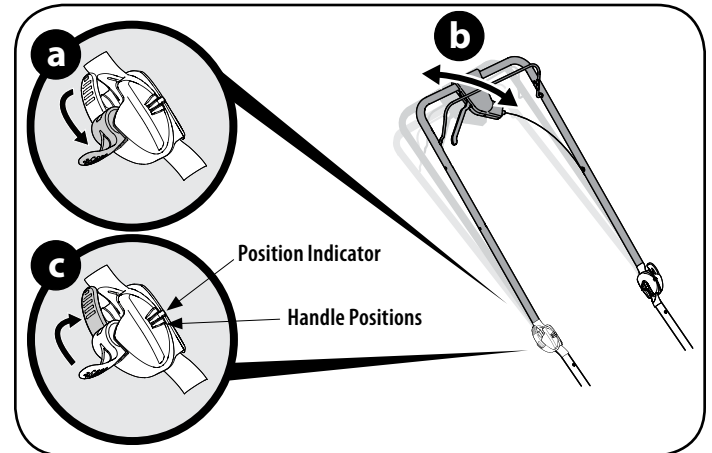

Figure 15
2. EZ-Fold Handles. See Figure 15 -